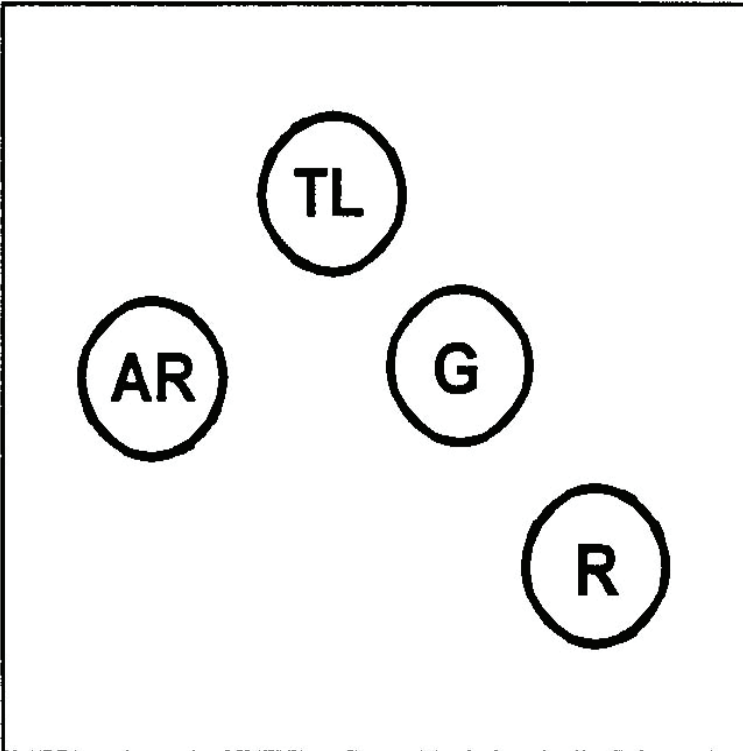

Figure 071-COM-0501-1. Wedge Formations
b. Assume your position within the team file formation (Figure 071-COM-0501-2).